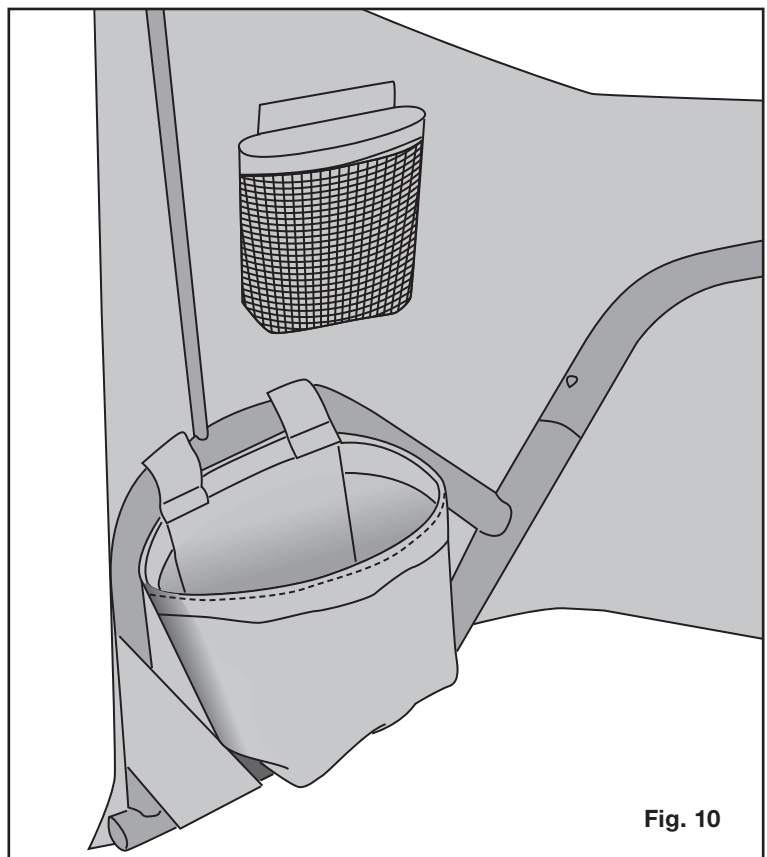

Fig. 10
### SECURE POCKETS TO CAB SKIN AND FRAME (FIG. 10)
14. Find the two sand/salt pouches [R1, R2] and the mesh garage door opener holder [S]. Secure the large pouches to the top arch of the mounting bar ends using the rip and grip strips. On the left side of the inside of the fabric skin there is a loose fabric gusset. Secure the garage door opener holder to the gusset with rip and grip strips. (Fig. 10)